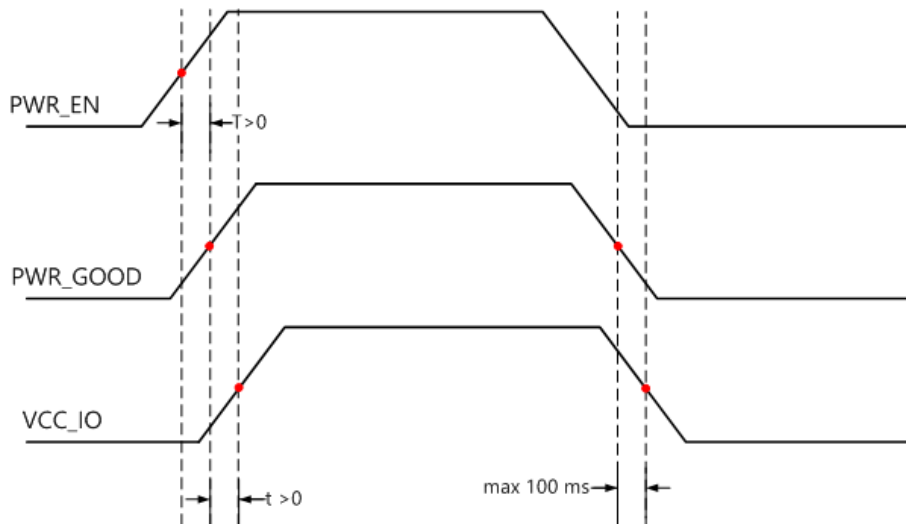

Figure 9: Power-Up Sequence - VCC\_IO in Relation with PWR\_GOOD and PWR\_EN Signals
Do not power the VCC\_IO pins when PWR\_GOOD and PWR\_EN signals are not active. If the module is not powered, you need to make sure that the VCC\_IO voltages are disabled (for example, by using a switch on the base board, which uses PWR\_GOOD as enable signal). Figure 9 illustrates the VCC\_IO power requirements.
*Do not power the VCC\_IO pins when PWR\_EN is driven low to disable the module. In this case, VCC\_IO needs to be switched off in the manner indicated in Figure 9.*